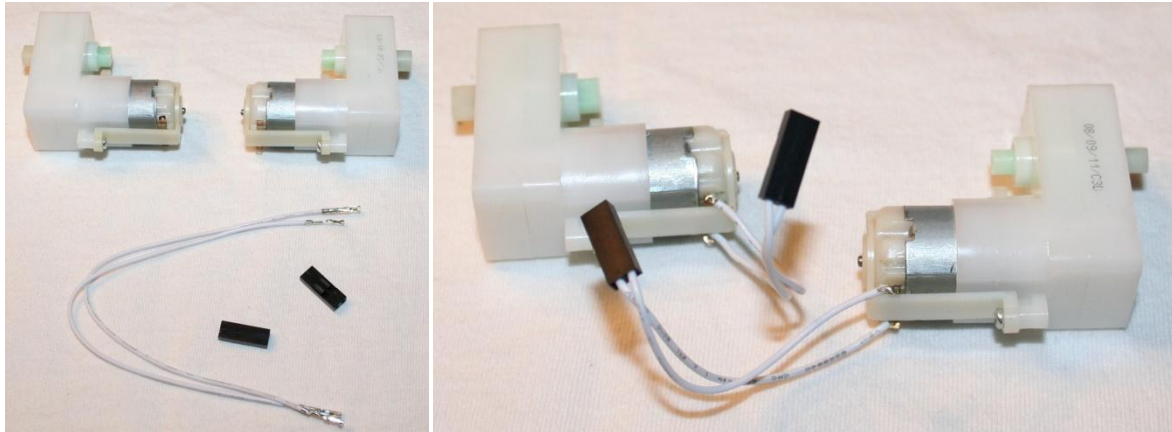

FIG 23. Prepare & Solder Motor Wires.
Refer to figure 23 below for how to prepare & solder motor wires. Cut (2) of the 6" long white wires in half and then solder to the motor tabs. Insert crimp ends into 2-position plastic connector.